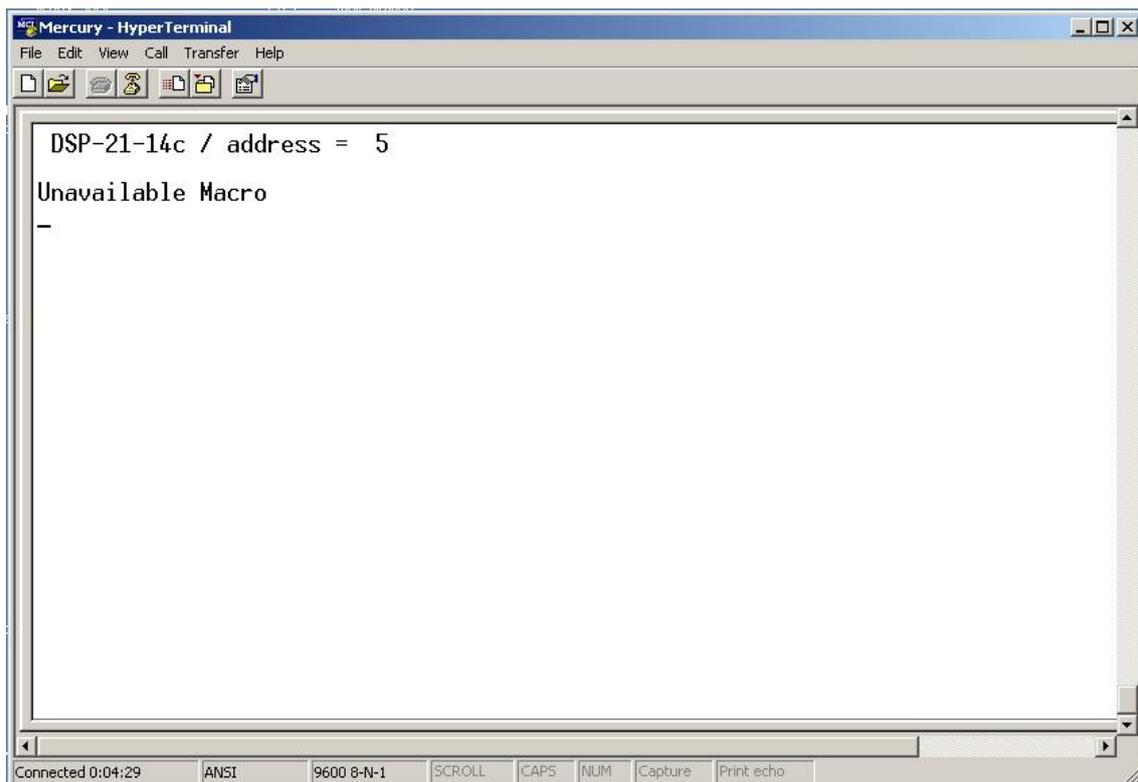

Figure 1: HyperTerminal screen.
- The **HyperTerminal** screen should look like in Fig. 1.